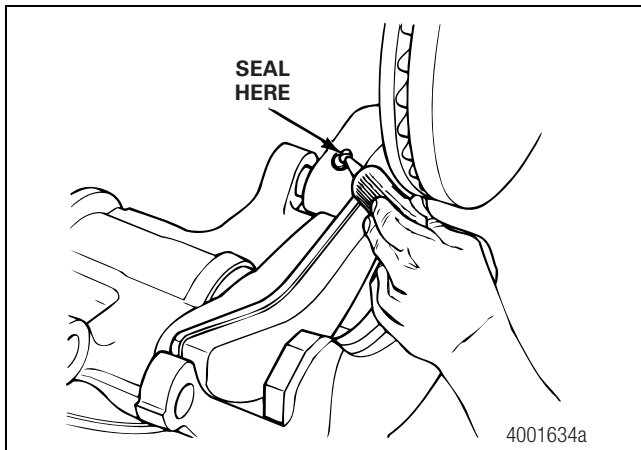

Figure 10.15
4. Remove dirt, paint or other material from the slide pin. Apply silastic seal in the inboard end retainer hole to prevent corrosion and ease removal of the lower slide pin. Figure 10.15.